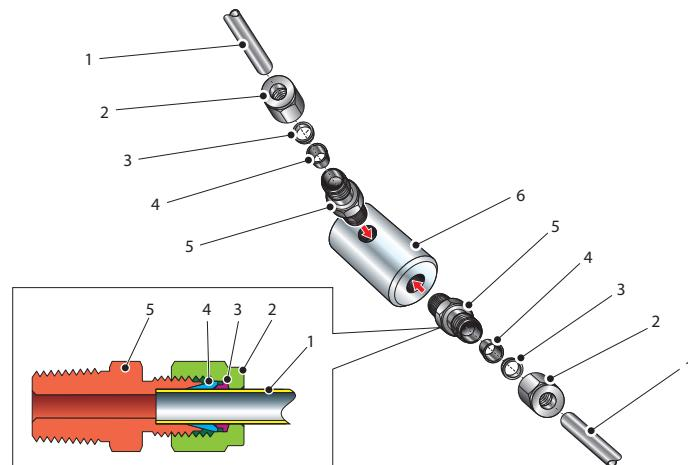

Figure 9 *Sample Block Gas Connections*
Sample gas connections are made to the Gas In and Gas Out ports on the sample block (see *Figure 9*). Either port on the sample block may be used as the Gas Input port (i.e. for connection purposes the ports are interchangeable).
Both the Input and Output gas connections are $1/8$ " NPT. It is recommended that both the Gas Input and Output connections are made via $1/8$ " NPT to 6mm or $1/8$ " NPT to $1/4$ " stainless steel tube adaptors (2...5 – *Figure 9*). The method of connection to the sensor block (6) is as follows: